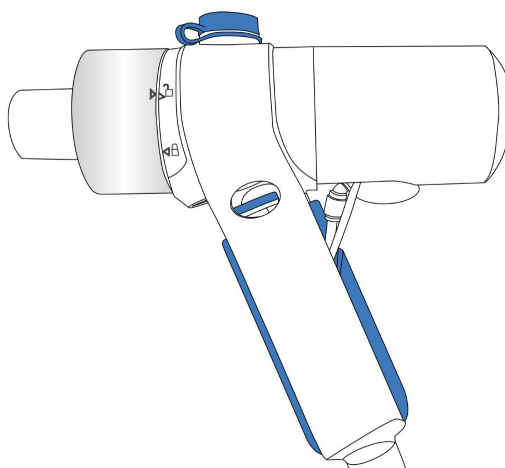
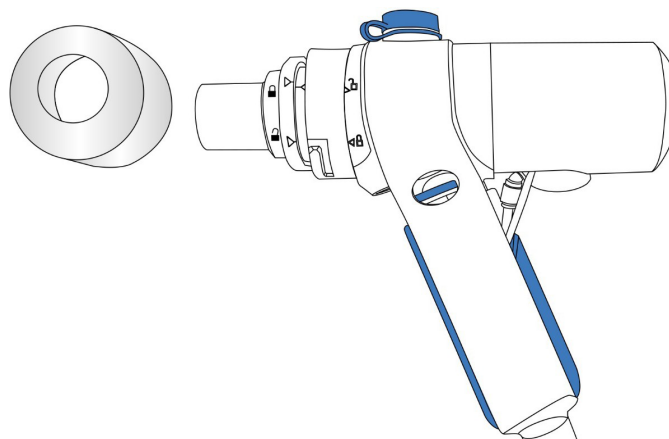

Figure 6- Front Cap in the unlock location.
Figure 7 - Flowhead with Front Cap removed.
Note: The Patient Valve must be disassembled in the orientation shown in Figure 6, with the lock/unlock features on the Left Side Casing visible at all times.
2. Turn Front Cap anticlockwise to the unlock position (Figure 6) and remove (Figure 7)